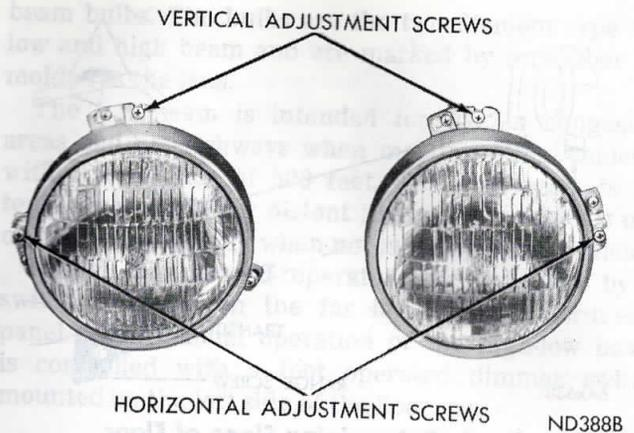

Fig. 5—Headlight Adjusting Points
(2) While sighting through viewing port of aimer, turn horizontal adjusting screw on headlight until split target image line merges into one unbroken line. To remove backlash, be sure to make a final adjustment by turning headlight horizontal adjusting screw in a clockwise direction, (Fig. 5).
(3) Make horizontal adjustment on other side of vehicle in same manner.